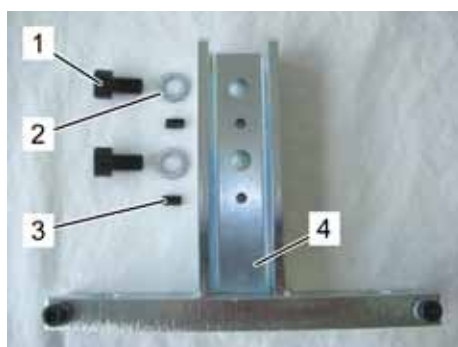

Fig. 33: Profile type sensor bracket
1. Attach two NordLock® discs (Fig. 33/2) on every bolt M8, M10 or M12 (Fig. 33/1).